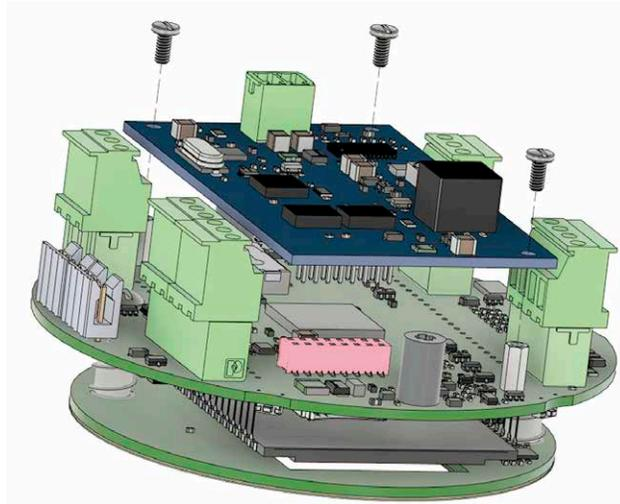

Figure A.12—Header-to-pin alignment (header color is changed for illustration purpose; the actual header is black)
5. Identify the header block on the main board (located just below TB1) that will mate with the pins on the expansion board. Orient the expansion board to visually align the pins on the back side with the main board header (Figure A.12, page A-9).